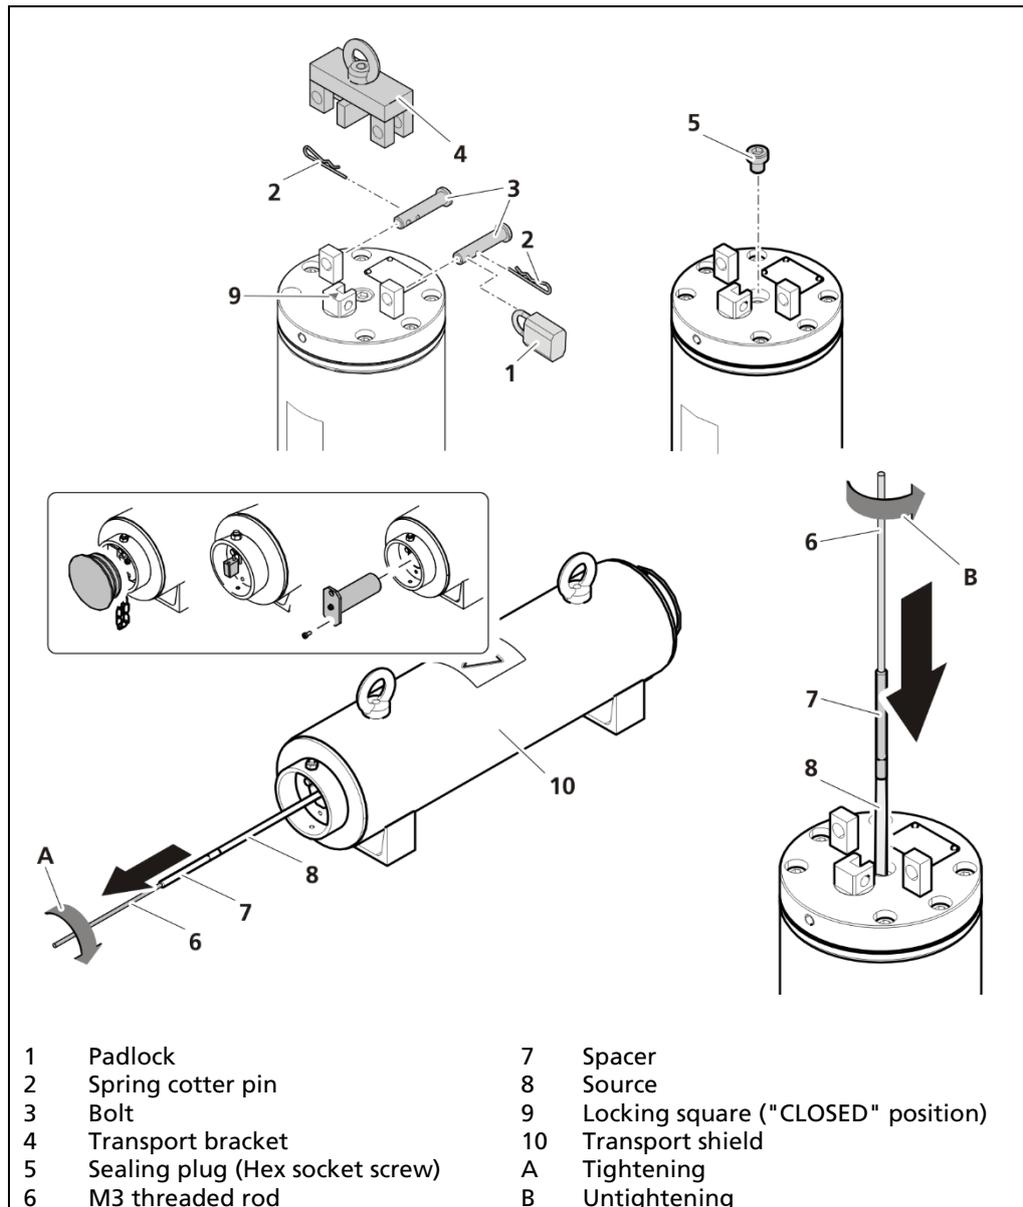

Fig. 17 Installation of the source into a operation shield
1. Make sure that the operation shield is opened (removing parts Fig. 17, pos.1 to pos.5), so that the new source can be inserted quickly as possible.
4. Open the transport shield (Fig. 17, pos.10).
5. Grip the new source (Fig. 17, pos.8) with one pliers and, with the other pliers, screw the spacer (Fig. 17, pos.7) which has unscrewed from the old source (see sub chapter "Remove source"), onto the new source.
7. Insert the new source without delay into the operation shield so that only the spacer (Fig. 17, pos.7) protrudes.
8. Unscrew the M3 threaded rod (Fig. 17, pos.6) from the spacer (Fig. 17, B).
9. Attach new Teflon sealing tape to the screwed sealing plug (Fig. 17, pos.5).
13. Close and secure (Fig. 17, Pos.4, Pos.5) the operation shield.
14. If no further sources have to be inserted, close and secure the transport shield (Fig. 17, Pos.10).